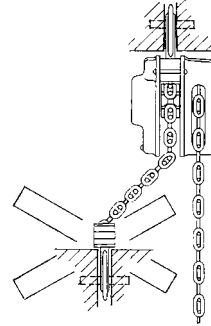

Fig. 3
- Avoid side pull, i. e. side load on either housing or bottom block (Fig. 3).